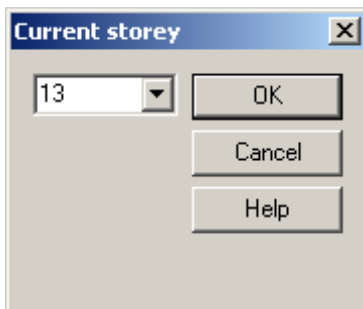

Figure 1.13.2 **Current storey** dialog box
- ⇒ In the **Current storey** dialog box (see Fig.1.13.2), do the following: